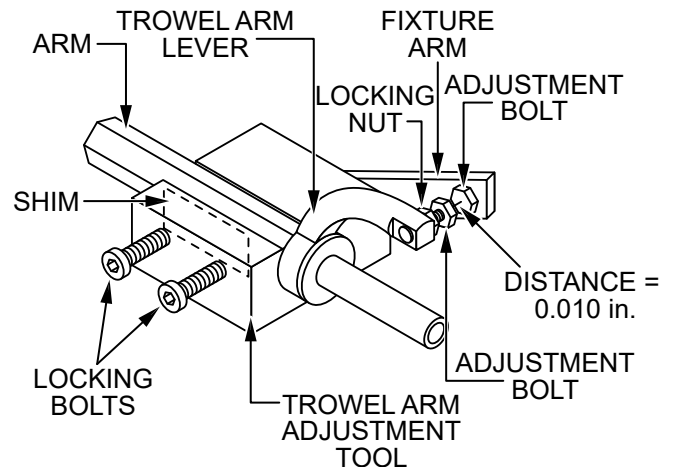

Figure 86. Trowel Arm Adjustment
4. Unscrew the locking bolts on the adjustment tool and place the trowel arm into the fixture channel as shown in Figure 86. A thin shim may be required to cover the blade holes on the trowel arm. Make sure to align the trowel arm adjustment bolt with the fixture adjustment bolt.
5. Tighten the locking bolts (Figure 86) with an Allen wrench to secure the trowel arm in place.
6. Loosen the locking nut on the trowel arm lever (Figure 86), then turn the trowel arm adjustment bolt until it barely touches (0.010") the fixture adjustment bolt.